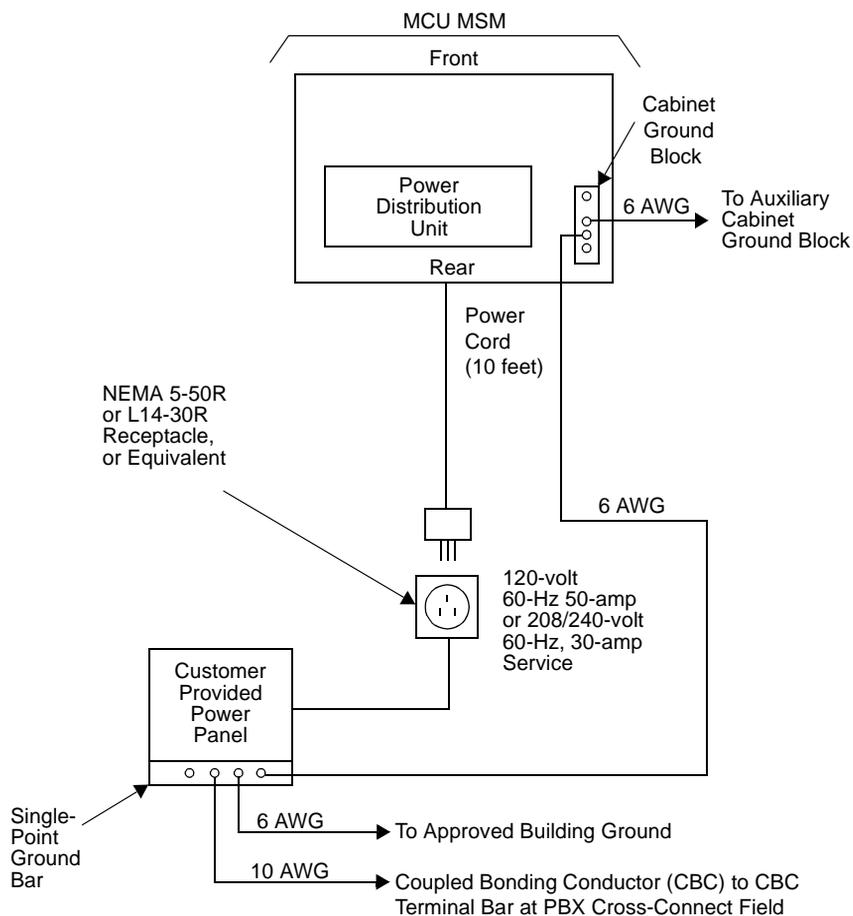

Figure 3-20. Typical AC Power and Grounding Arrangement for a MCC-MSM
1. At lower right rear of the MSM, connect a 6-AWG ground wire to the MSM ground bar (Figure 3-20 on page 3-34). See the accompanying note.
2. Run the ground wire to the single-point ground-terminal bar at the AC load center (shown as "power panel" in Figure 3-20 on page 3-34).